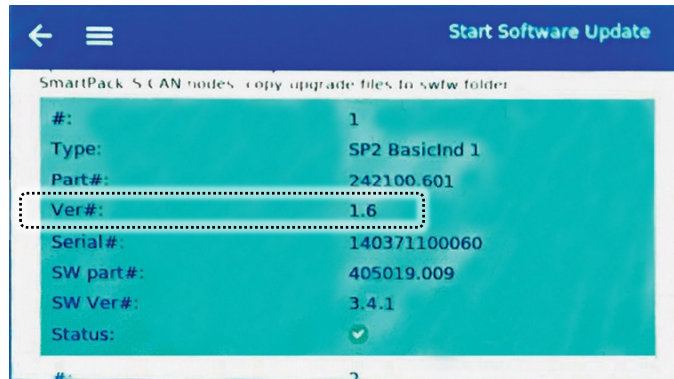

Figure 4 -Controller List (Basic Industrial Controller shown)
10. The upgrade of the system is complete when the last unit has been programmed. The new software information will be displayed on the controller screen after it automatically times out, or if it is manually set back to the home screen. Go back to **Commands > Software Upgrade** to refresh the controller list (see Figure 4). Confirm that the software versions on the controller list reflect the updated versions listed on the README file associated with update files (see Step 1, page 9).